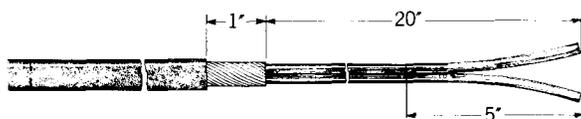

Fig. 4 — Preparation of D Underground Wire for 38-Y-D and 38-Y-DB Cable Closure
2.10 To join D Underground Wire directly to the cable conductors in a 38-Y-D and 38-Y-DB Cable Closure, prepare the wire as shown in Fig. 4.